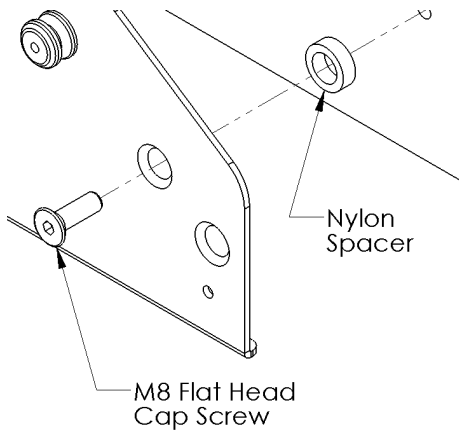
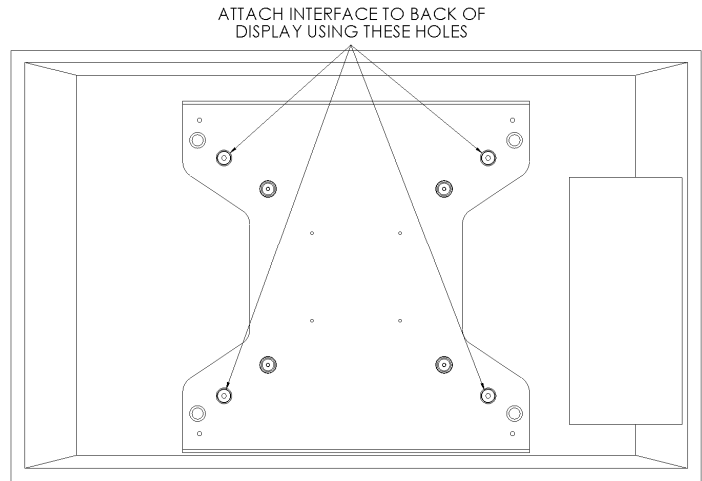

Figure 6
Figure 7
- Bracket Installation:** Attach brackets to back of display using four M8 screws (see Figure 6 & Figure 7). Do not over tighten screws. The plate has two sets of mounting holes. The inner set of holes is for the 32" screen and the outer set of holes is for the 37" screen.